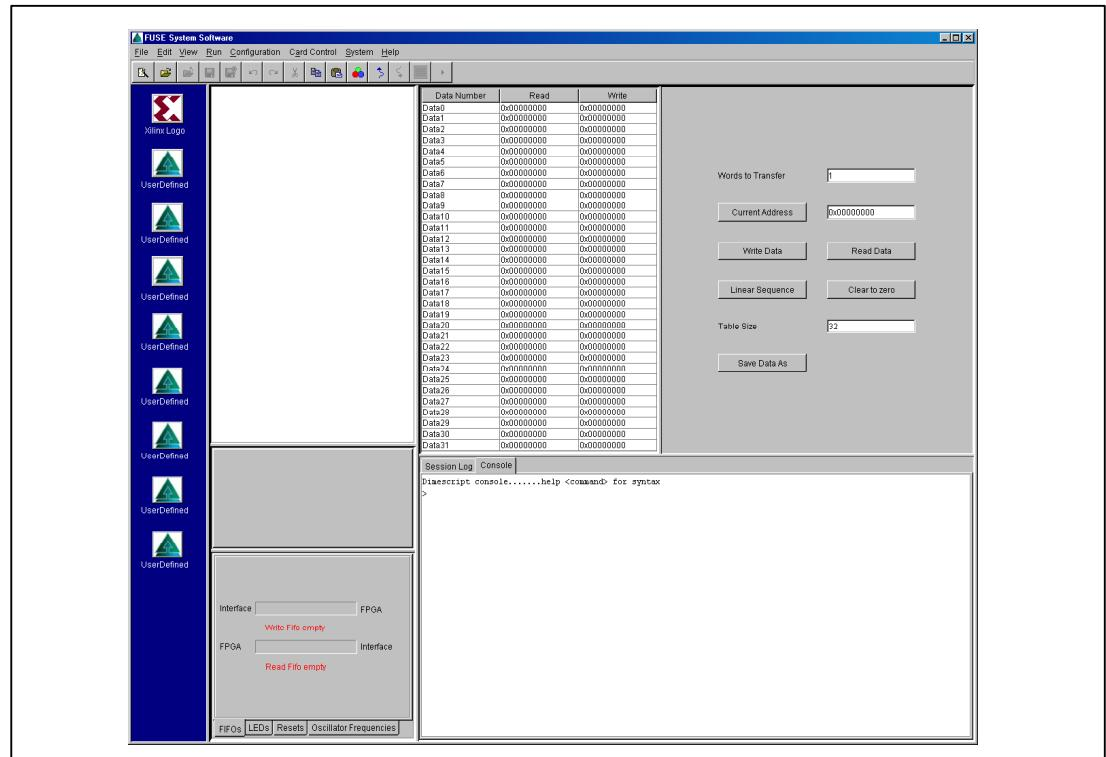

Figure 16: Button with new name and icon
2. Click on **OK**. The new button details are now displayed in the FUSE GUI as shown in Figure 16: